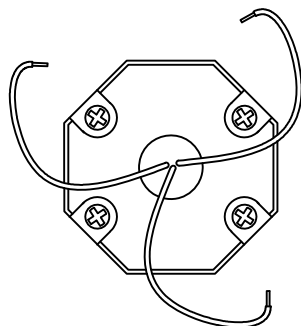

FIGURE 3
3. MOUNT EITHER AN OCTOGONAL OR SQUARE 4" JUNCTION BOX (NOT SUPPLIED) TO WALL (RECESSED OR SURFACE). SEE FIGURE 3.